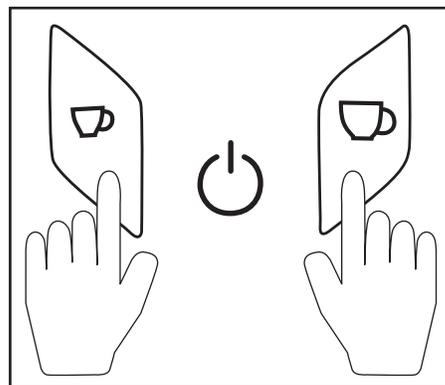

Fig. 1
- Press the Espresso  ② and Lungo  ④ button at the same time (see Fig. 1). The buttons go dark and the appliance switches itself off.